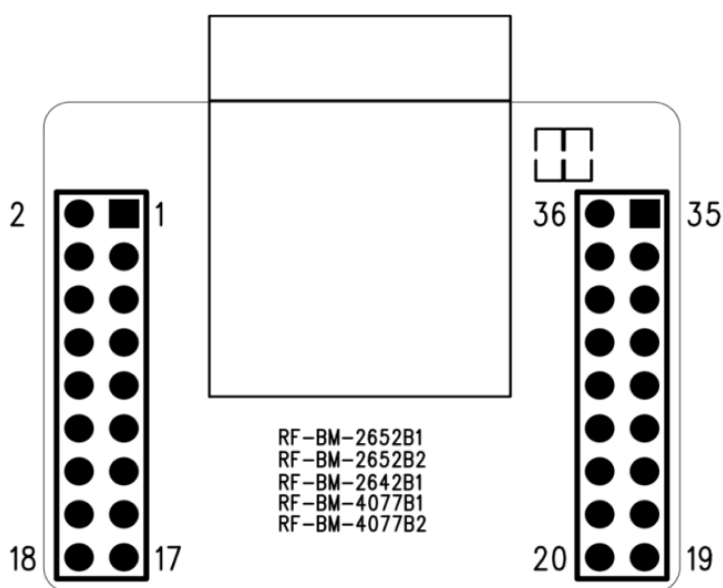

Figure 5. Pinboard RF-TB-2652B1
5. Open the serial port tool software, this software will automatically identify the USB-to-UART tool driver. The software configuration is shown in Figure 5. After the settings are correct, click to open the serial port. (Note: If you use our transparent program, you need to set BRTS low to accept data.)